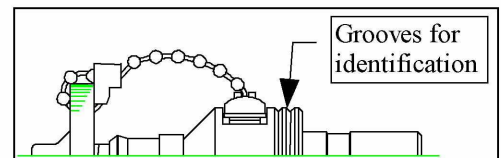

Fig. 47 - Sleeve holder
- The sleeve holder for Super 300 Type Pillar Fitting P Series has dual grooves on its flange (see Fig. 47).